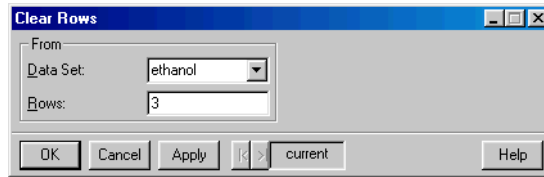

Figure 2.29: *The **Clear Rows** dialog.*
- From the main menu, choose **Data ► Clear ► Row**. The **Clear Rows** dialog opens, as shown in Figure 2.29.